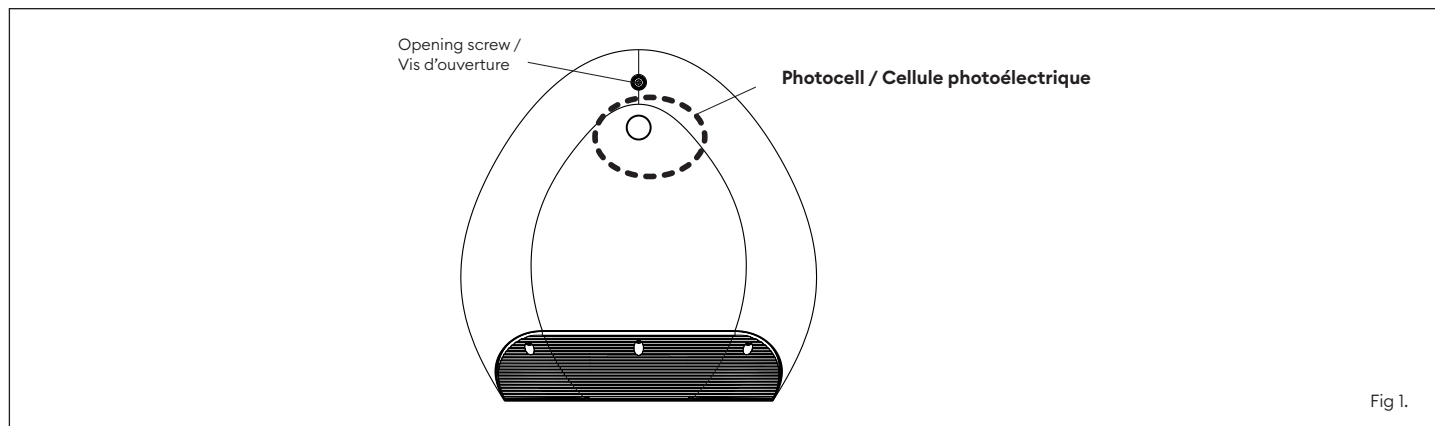

Fig 1.
3. Unscrew the front screw located above the photocell, use provided allen key (Fig 1).